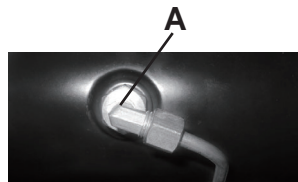

FIGURE 3
**CHECK VALVE (A) FIG.3.** When the air compressor is operating, the check valve is "open", allowing compressed air to enter the air tank. When the air compressor reaches "Cut-Out" pressure, the check valve "closes", allowing air pressure to remain inside the air tank.